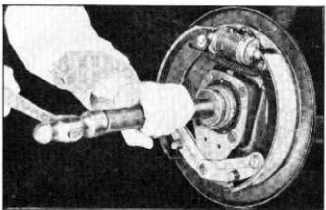

Fig. 7—Axle Shaft Bearing and Oil Seal Replacer
1. Using bearing and retainer replacer K-427 (fig. 7) place oil seal, bearing and inside bearing retainer on tool in that order.